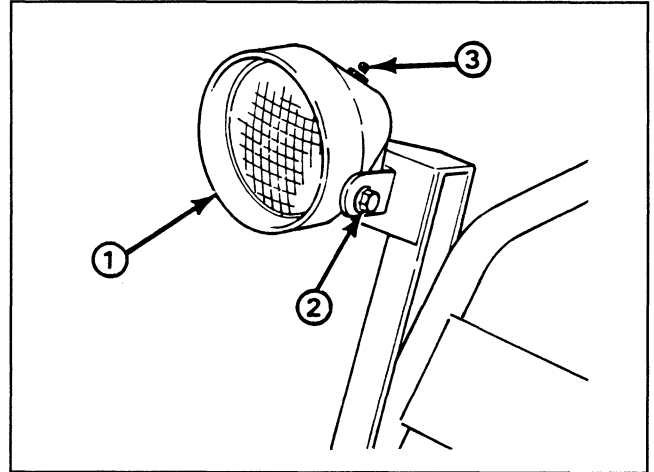

Figure 23
1. Rotate headlight to desired position. If light is difficult to move, loosen locknut (Fig. 23).
3. To turn on headlight, push button switch on top of light (Fig. 23).